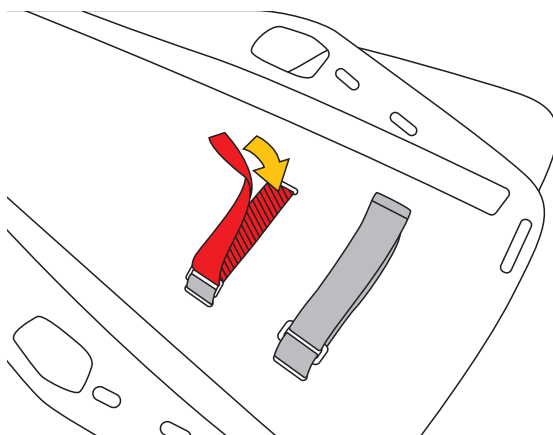

Fig.10
b) Attach the head immobiliser by pulling and overlapping the Velcro straps on the underside of the spinal board (fig. 10).